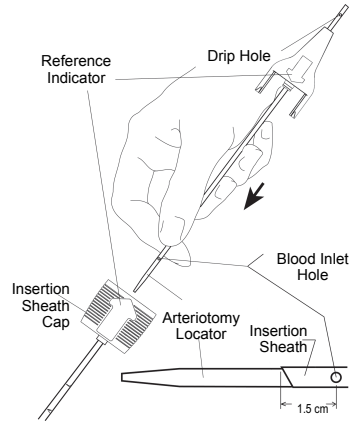

Fig. 1
3. Insert the arteriotomy locator into the Angio-Seal insertion sheath (Figure 1), making sure the two pieces snap together securely. To ensure proper orientation of the arteriotomy locator with the sheath, the hub of the locator and the sheath cap fit together only in the correct position. The reference indicator on the locator hub must align with the reference indicator on the sheath cap.